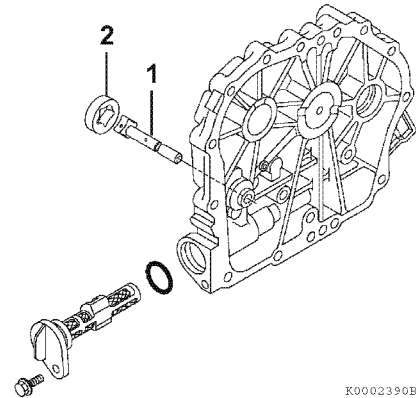

Figure 6-77
2. Install the inner rotor and shaft assembly (2, **Figure 6-77**). Install the outer rotor (1, **Figure 6-77**) with the dot on the rotor facing up.